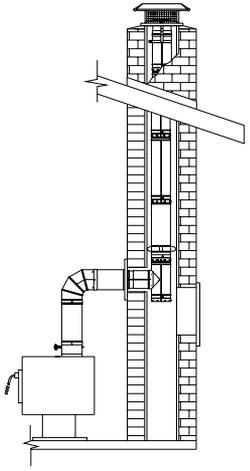

Fig. 2
5. Determine if your setup is an open hearth (Figure 1) or tee installation (Figure 2). Also determine the available size of your chimney (Figure 2a) and the corresponding allowable DuraLiner size. (Chart 2a)
7. If you have a tee installation setup, verify your flue size and chimney height from tee, before you purchase your appliance and reliner. (Figure 2)